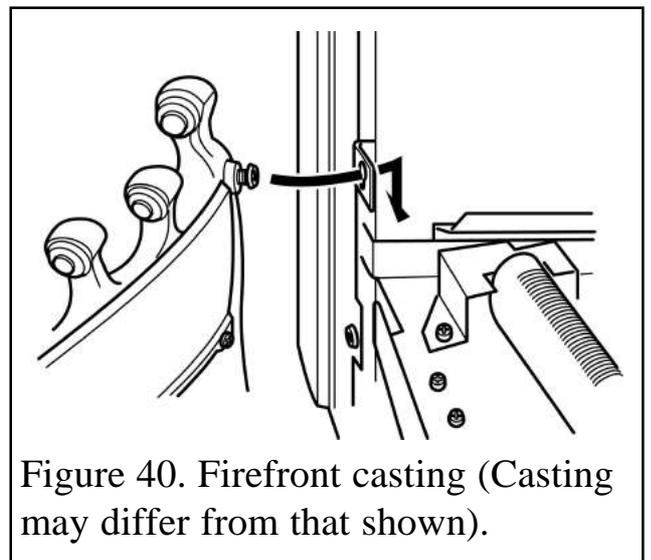

Figure 40. Firefront casting (Casting may differ from that shown).
14.2.1 Fit the fire front casting to the fascia. Locate the two screw heads at the rear top corners of the fire front casting through the keyhole slots at the inner sides of the fascia. If the screw heads do not project enough or project too far, the screws can be adjusted. Lower the casting so that it rests on the hearth (See figure 40).
14.5 Locate the two screw heads through the keyhole slots at the inner sides of the surround. If the screw heads do not project enough or project too far, the screws can be adjusted. Lower the casting so that it rests on the hearth (See figure 40).